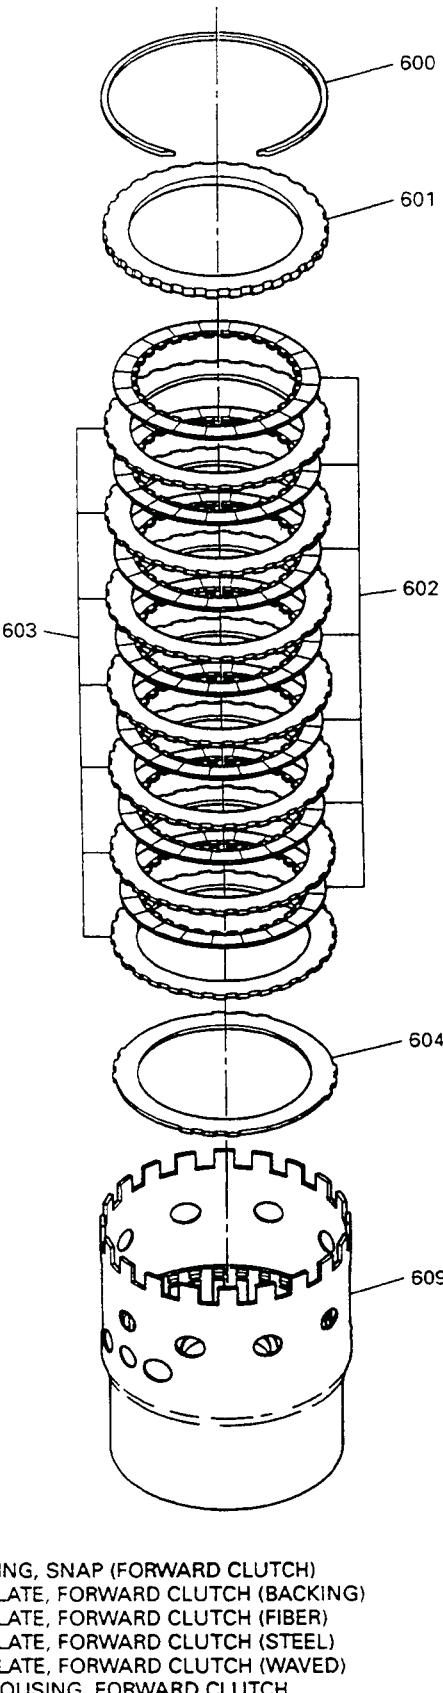

Figure 116
12. Install the forward clutch wave plate (604) into the forward clutch housing (See Figure 116).
13. Install the forward clutch plates beginning with a steel plate on top of the wave plate and then alternating with lined plates, until you have installed seven steel plates and seven friction plates, as shown in Figure 116.
14. Install the forward clutch backing plate, with the flat side facing up as shown in Figure 116.
15. Install the forward clutch backing plate snap ring as shown in Figure 116.